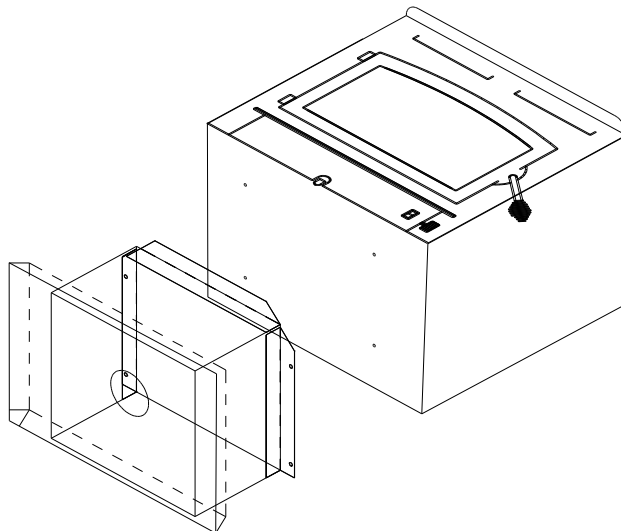

Figure 4
6. If pedestal kit is being used, open the corresponding freestanding kit and obtain the stand. Place the stand against the bottom of the heater (angle side to heater) at the marked line. Center the stand left and right and mark screw locations on bottom through outer holes of stand mounting angles. Set stand aside and drill four 7/32" holes in heater bottom. (See Figure 4.)